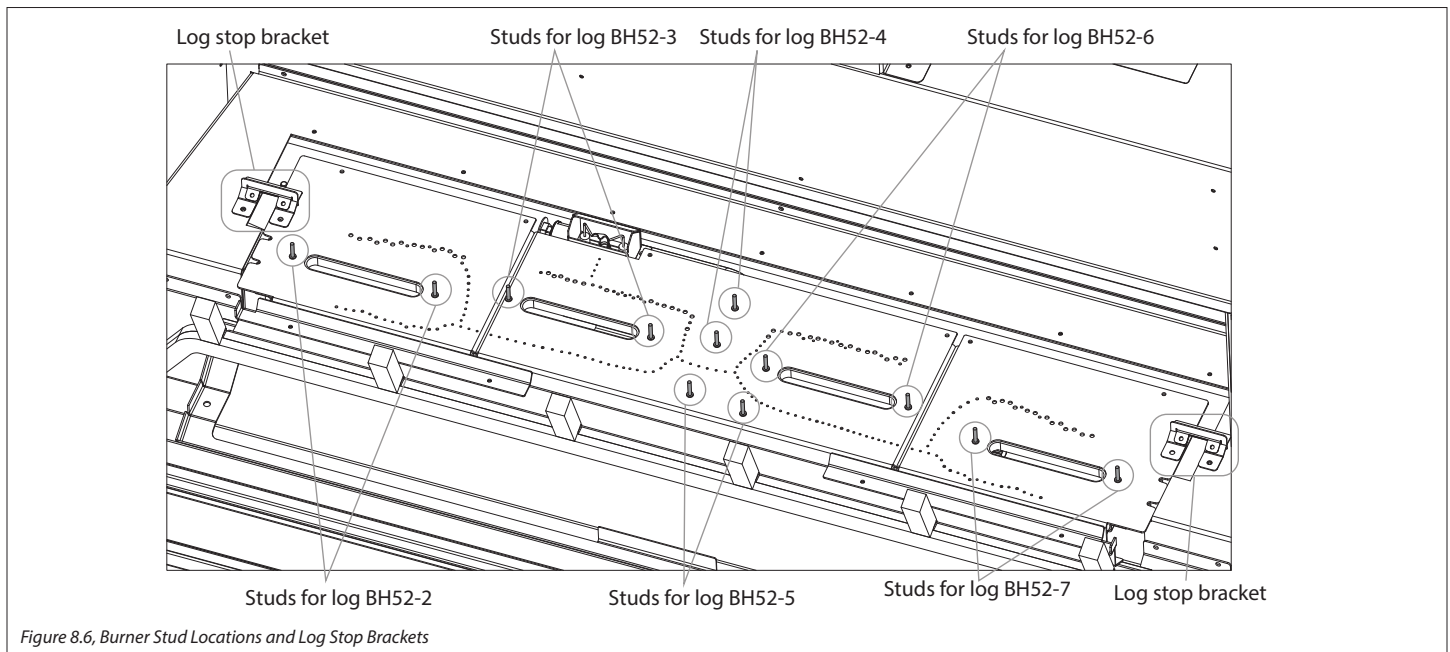
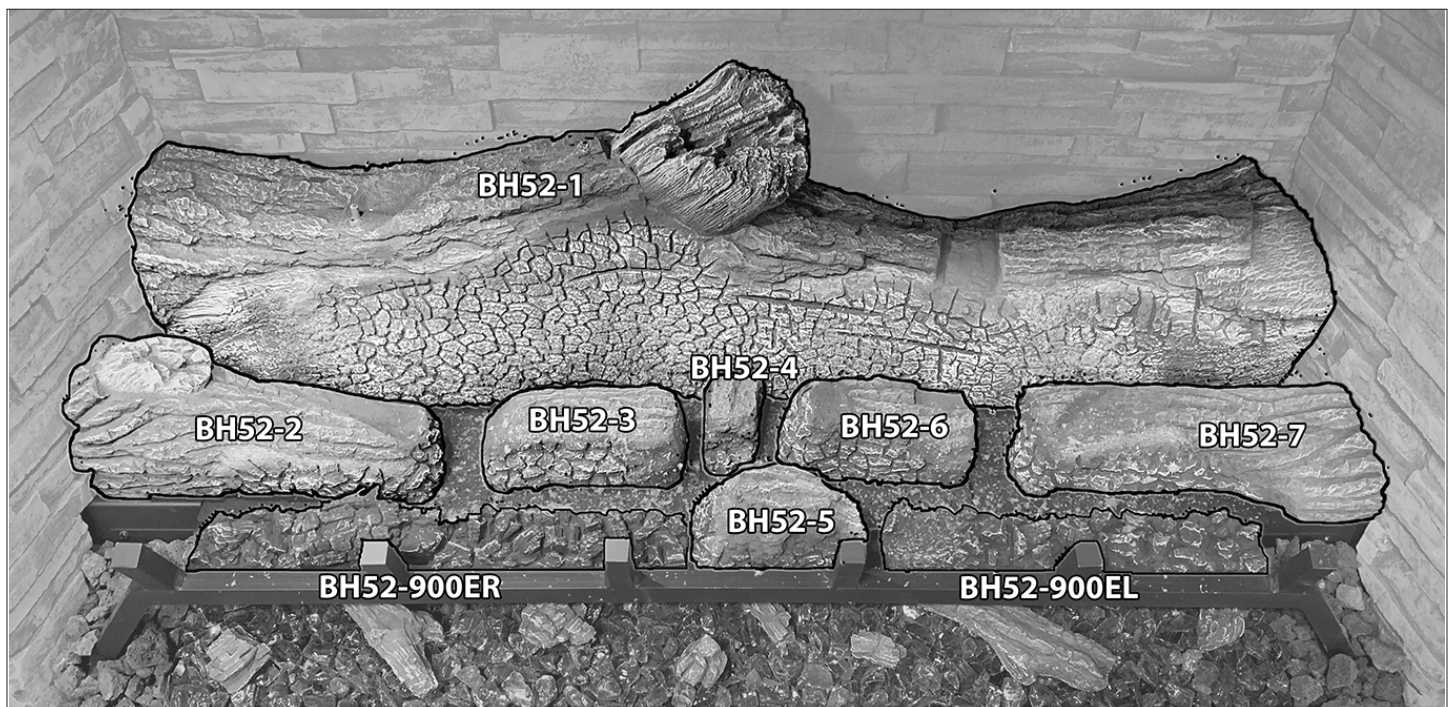

Figure 8.6, Burner Stud Locations and Log Stop Brackets
Figure 8.7, Base Logs
1. Using both hands, place log BH52-1 at the rear of the firebox, as shown in Figure 8.7. Slide the log forward until it rests against the log stop bracket flanges (Figure 8.6).
3. Align the holes in the bottom of logs BH52-2 through BH52-7 with the corresponding studs located on the burners. See Figure 8.6 for burner stud locations
4. Set logs BH52-2 through BH52-7 into position as shown in Figure 8.7.
5. Place the left and right ember panels on their respective sides of log BH52-5, as shown in Figure 8.7. The right ember panel has a flat notch on the side closest to log BH52-5.